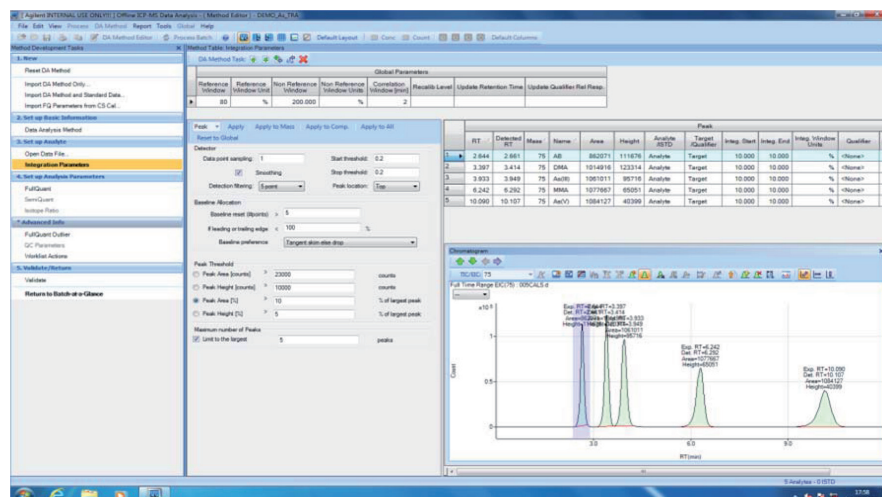

Figure 5. Chromatographic Data Analysis Method Editor screen
The new revision of ICP-MS MassHunter also adds significantly enhanced functionality in chromatographic data analysis (DA). A new Integration Parameters pane has been added to the DA Method Editor. The new pane combines the chromatogram display, the integration parameters and the peak/compound table, so all method settings can be viewed together (Figure 5).